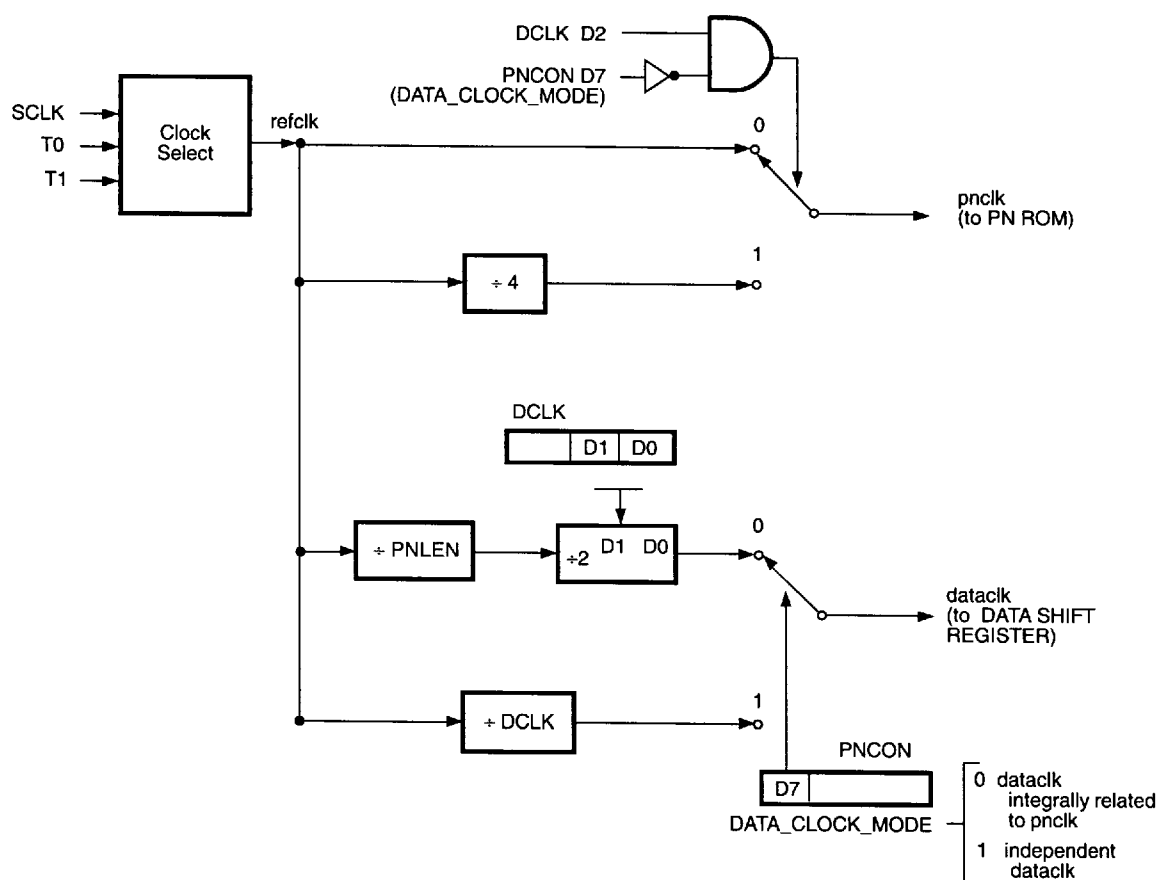

Figure 19. Conceptual Block Diagram of PN Modulator Timing Generator
**Stop-Mode Recovery Register (SMR).** This register selects the clock divide value and determines the mode of Stop-Mode Recovery (Figure 19). All bits are write only except bit 7, which is read only. Bit 7 is a flag bit that is hardware set on the condition of a STOP recovery and reset on a power-on cycle. Bit 6 controls whether a low level or high level is required from the recovery source. Bit 5 controls the reset delay after recovery. Bits 2, 3, and 4 of the SMR specify the source of the Stop-Mode Recovery signal. Bit 1 determines whether the selected oscillator, RC or TMBASE, is divided by 1 or 2. Bit 0 controls the divide-by-16 prescaler of SCLK/TCLK.
**Stop-Mode Recovery Level Select (D6).** A 1 in this bit position indicates that a high level on any one of the recovery sources wakes the device from STOP mode. A 0 indicates low level recovery. The default is 0 on POR (Figure 19).